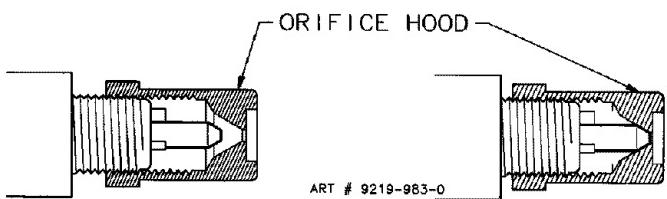

FIGURE 9A
- b. Screw the burner orifice hoods away from the pins. (See figure 9A). Approximately 1 1/2 to 2 turns.